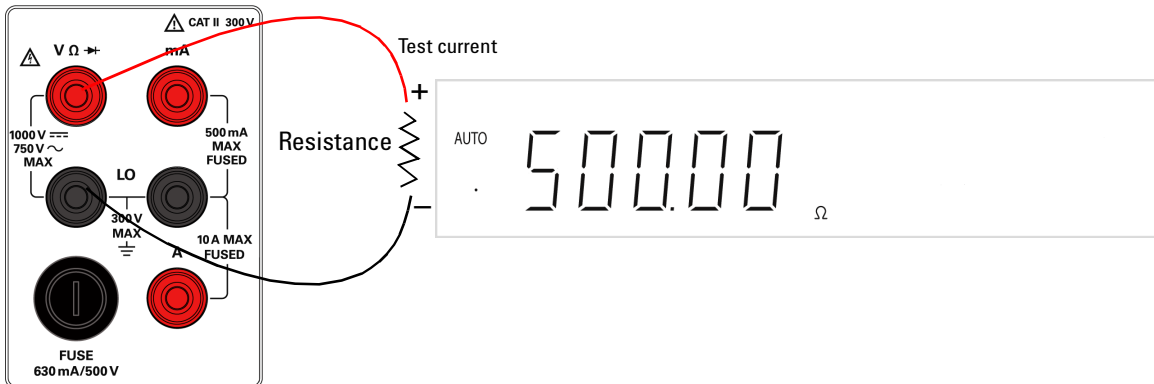

Figure 2-6 Resistance /continuity terminal connection and display
- 2 Connect the red and black test leads to the input terminal as shown in Figure 2-6.